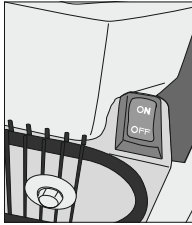
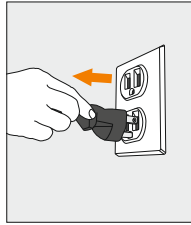

Figure 7
Figure 8
- 5.1 Turn off Hot Tank Switch (Hot & Cold models only) and disconnect power supply cord (Figure 7 to Figure 8).